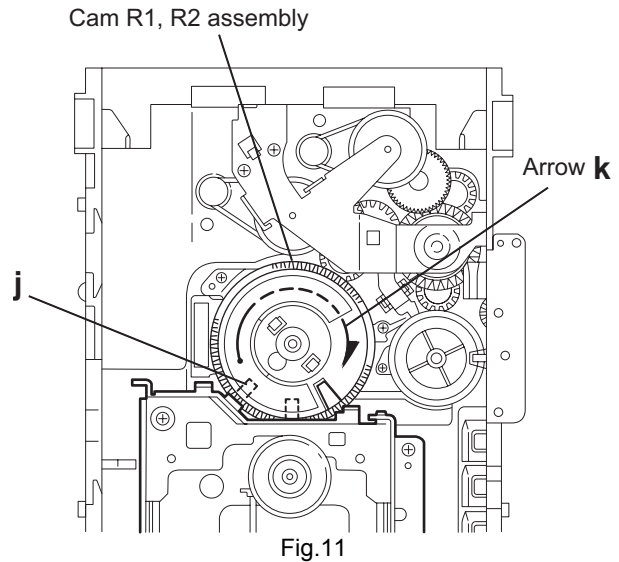

Fig.11
### 2.3.4 Removing the CD traverse mechanism (See Fig.11 and 12)
- (1) For dismantling only the CD traverse mechanism without removing the CD loading mechanism assembly, align the shaft **j** of the CD loading mechanism assembly to the position shown Fig.11 while turning the cam R1 and R2 assembly in the arrow direction **k**.
- (2) By raising the CD loading mechanism assembly in the arrow direction **l**, remove the assembly from the lifter unit.